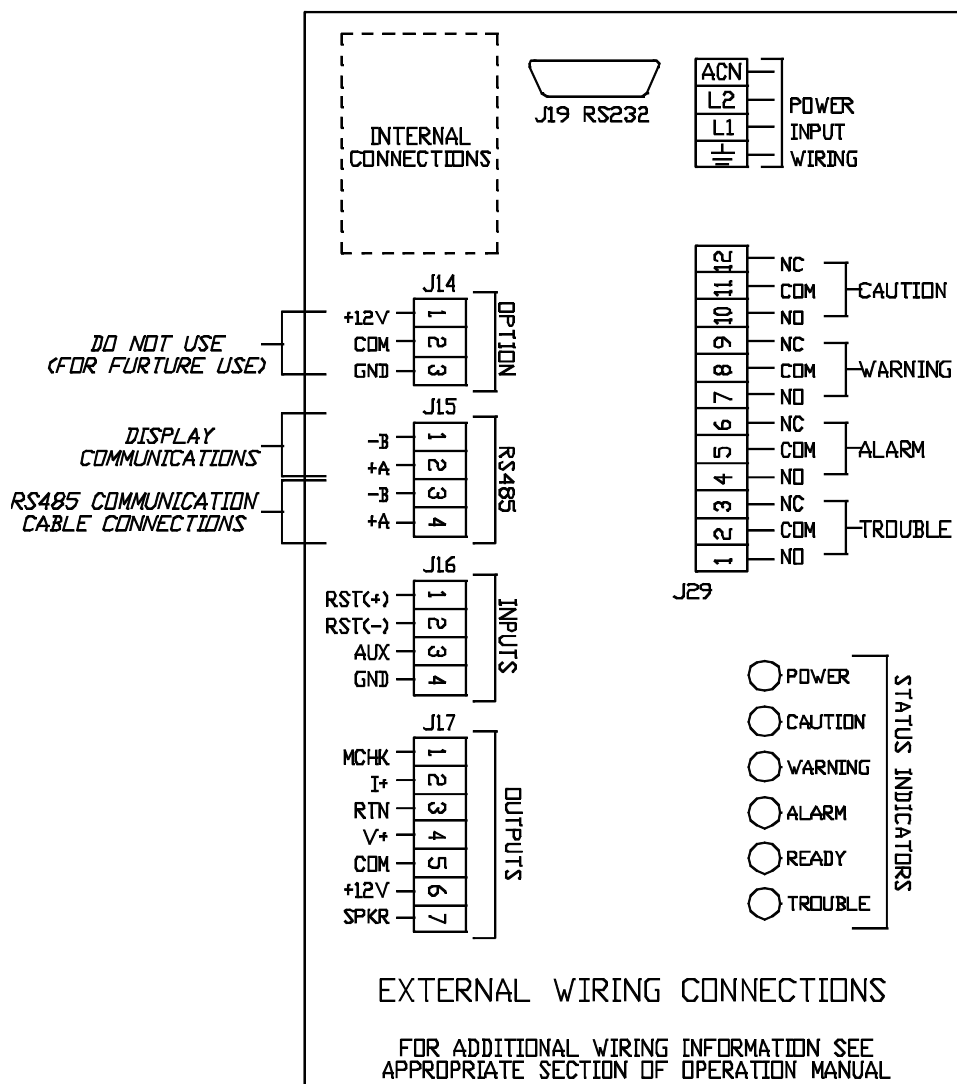

Figure B-5. Chemgard Infrared Gas Monitor Communication Cable Connections
5. Insert each stripped conductor into its proper location on the communication cable connector (Refer to FIGURE B-5 for connector location and function designation). The connector labeled "+" on the Relay Module must be connected to the